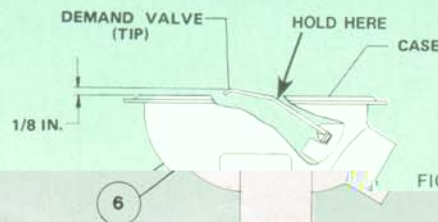

FIGURE 3
3. To change the lever height, insert the slot on the tool onto the lever just below the bend point. (see figure 3).
8. Insert new exhaust valve (12) from the outside of second stage body.
9. Install the diaphragm, (5) the front cover (4) and the lock (17).
10. Place your thumb in the opening in the exhaust Tee (14) and stretch it over the boss on the second stage body. Secure it with a screw (10) and washer (11).